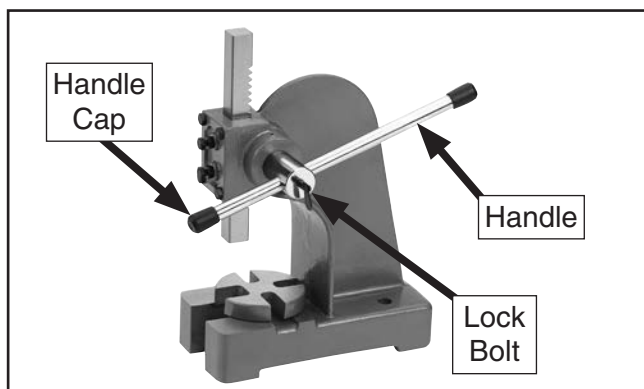

Figure 8. Handle with lock bolt installed.
3. Insert handle through pinion hub and install handle cap, shown in **Figure 8**.
4. Thread handle lock bolt into hub, as shown in **Figure 8**. When tightened, lock bolt secures handle in position relative to hub.